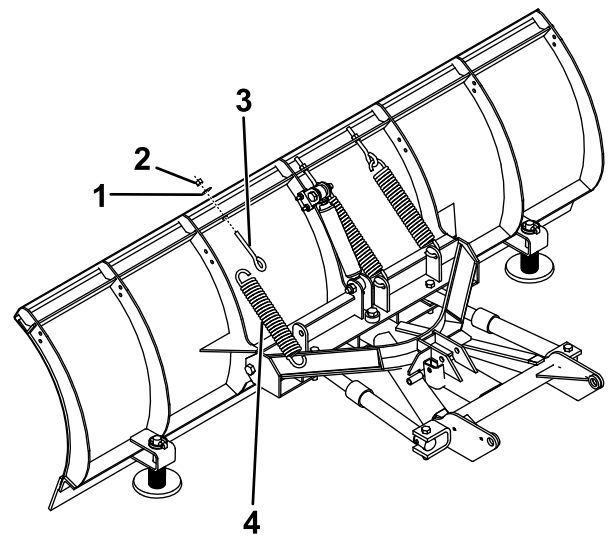

Figure 7
2. Hook the other ends of the trip springs to the eyebolts (Figure 7).
3. Insert the threaded end of the eyebolts through the holes on the plow blade and secure them using washers and self-locking nuts (Figure 7).
1. Hook the trip springs through the holes on the push-frame assembly (Figure 7).